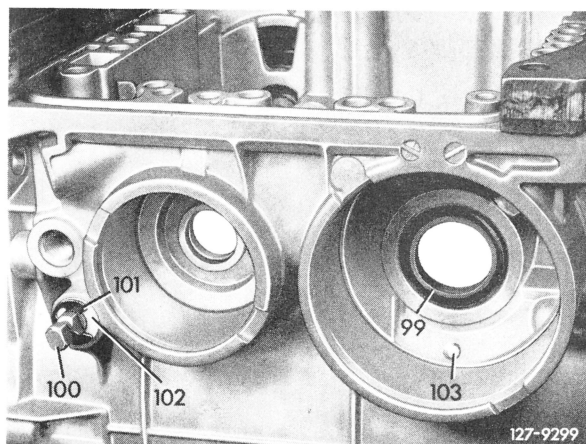

Fig. 32
**52** Install control pressure shaft (100), insert plastic washer (102) with lock (101) (Fig. 32).
**53** Press-in lip sealing ring (99) for release end B 2 until ring is flush with housing (Fig. 32).